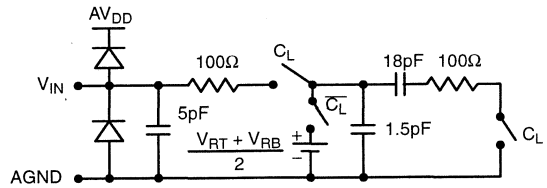

Figure 8. Equivalent Input Circuit
- See V_{IN} equivalent circuit (*Figure 8*). Switched capacitor analog input requires driver with low output resistance.
This part has a switched capacitor type input circuit. This means that the input impedance changes with the phase of the input clock. *Figure 8.* shows an equivalent input circuit.